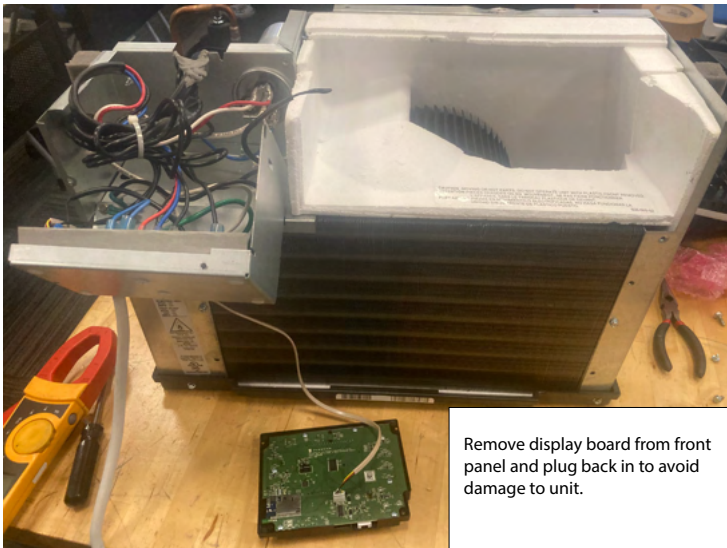

Figure 707
5. On Kuhl Q models remove display board from front panel and the plug back in. Refer to Figure 707.